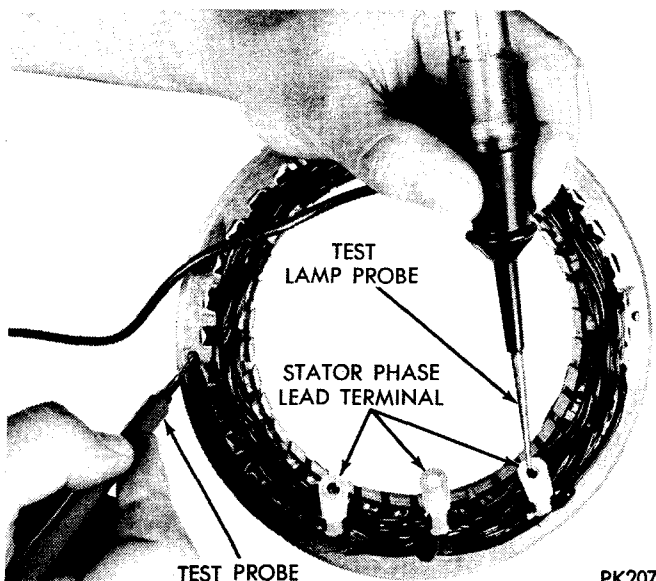

Fig. 51—Stator Test
(1) Press test probe firmly on outer diameter of stator frame (Fig. 51).